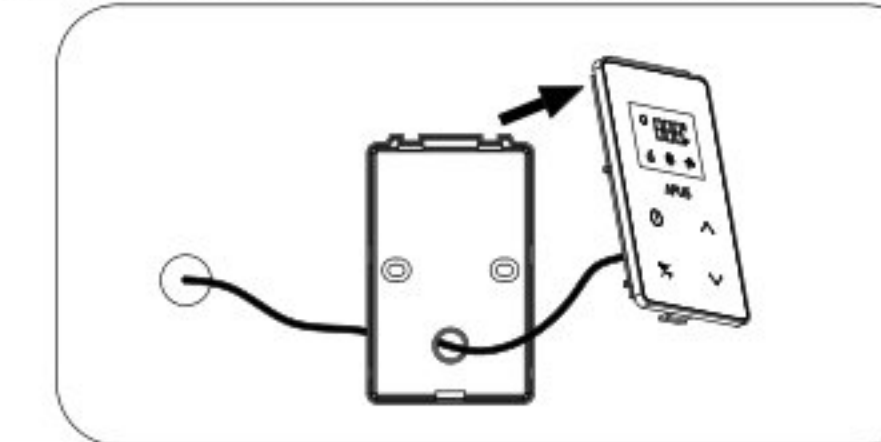

Figure 14
- Remove the frame of controller. Drill a hole with diameter 25mm at the predetermined wired controller installation location. Run the controller cable through the hole - refer to Figure 14